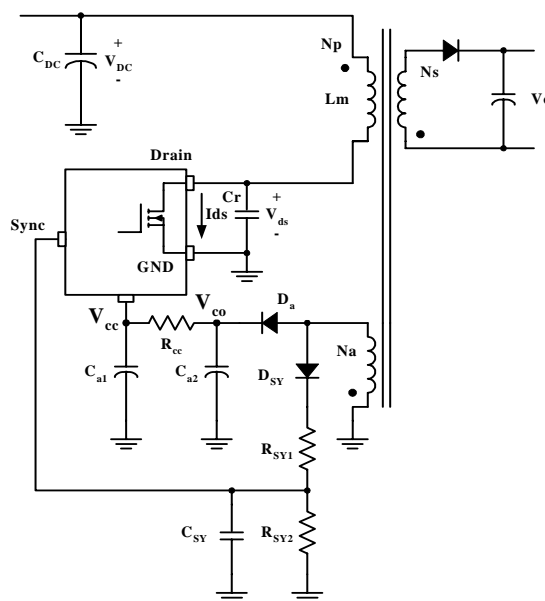
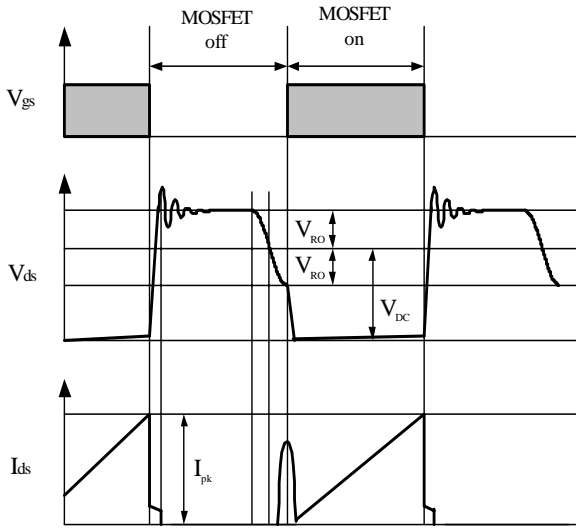
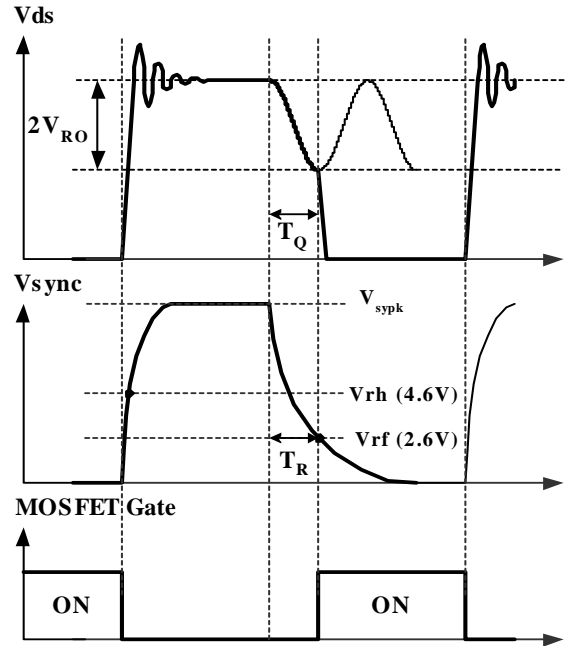

Figure 6. Synchronization circuit
Figure 7. Quasi-resonant operation waveforms
Figure 8. Normal quasi-resonant operation waveforms
2. Synchronization : FSCQ1265RT employs quasi-resonant switching technique to minimize the switching noise and loss. In this technique, a capacitor (C_r) is added between the MOSFET drain and source as shown in Figure 6. The basic waveforms of quasi-resonant converter are shown in Figure 7. The external capacitor lowers the rising slope of drain voltage to reduce the EMI caused when the MOSFET turns off. In order to minimize the MOSFET switching loss, the MOSFET should be turned on when the drain voltage reaches its minimum value as shown in Figure 7.
The minimum drain voltage is indirectly detected by monitoring the Vcc winding voltage as shown in Figure 6 and 8. The voltage divider R_{SY1} and R_{SY2} should be chosen so that the peak voltage of sync signal (V_{sypk}) is lower than the OVP voltage (12V) in order to avoid triggering OVP in normal operation. It is typical to set V_{sypk} to be lower than OVP voltage by 3-4 V. In order to detect the optimum time to turn on MOSFET, the sync capacitor (C_{SY}) should be determined so that T_R is the same with T_Q as shown in Figure 8. The T_R and T_Q are given as, respectively